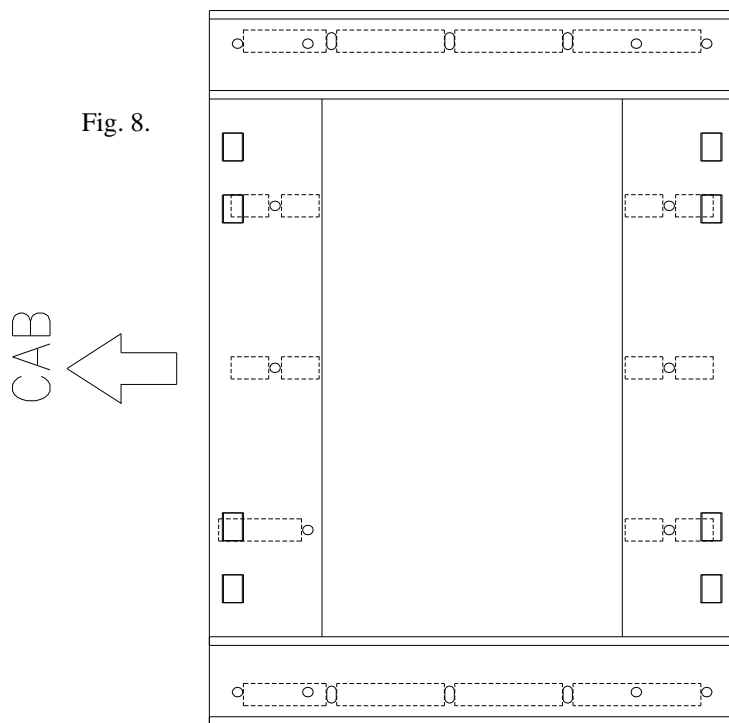

Fig. 8.
1. Set the Base Rail Assembly in the bed so that the obround holes in the Base Rail Assembly line up with the holes the bed. See figure 8 below.